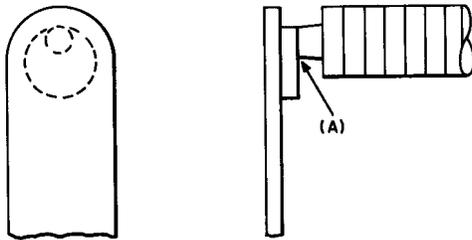

Fig. 2 — 85F-Type Relay — Contact Alignment
**2.07** *Contact Alignment* — Fig. 2(A): Contacts shall line up so the point of contact falls wholly within the circumference of the opposing contact disc. Gauge by eye.